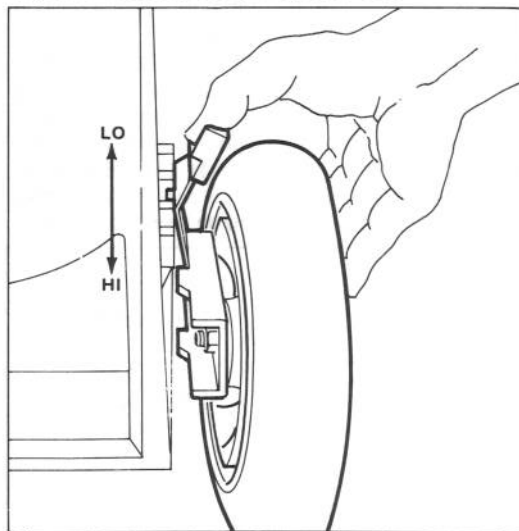

Figure 10
2. For easier adjustment, lift housing up so wheel is off ground. Squeeze adjusting lever toward wheel and move them to desired setting (Fig. 10). Assure pin on adjusting lever engages notch in mower housing wear plate. Adjust all wheels the same setting.
2. Move rear wheel height-of-cut levers to center setting. Wipe grease fittings with clean rag (Fig. 10). Install grease gun onto fitting and gently apply 1 pump of #2 Multi-Purpose Lithium Base Grease. may damage seals.